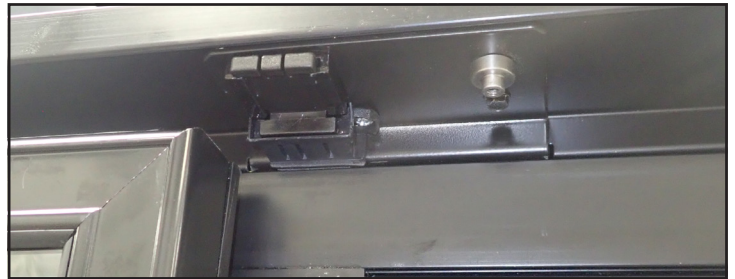

Fig. 23. Hinge pin plug installed on opposite side.
5. If applicable, move the hinge pin plug to the opposite side. See fig. 23.